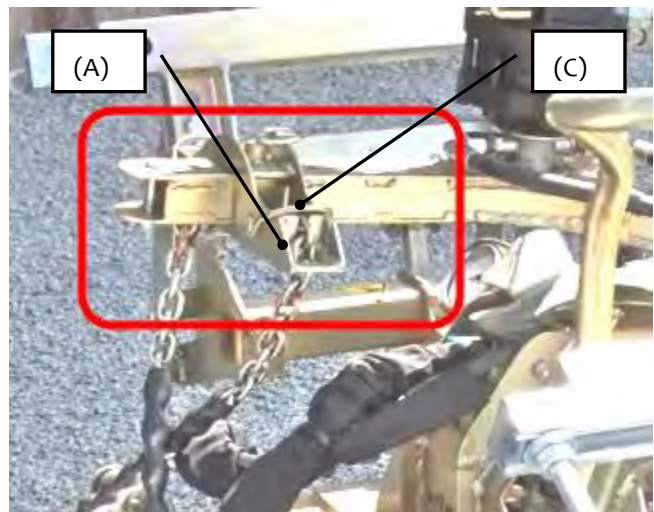

Fig. 32
Secure the adjusting chains (B) again with linchpin (C) → see Fig. 32